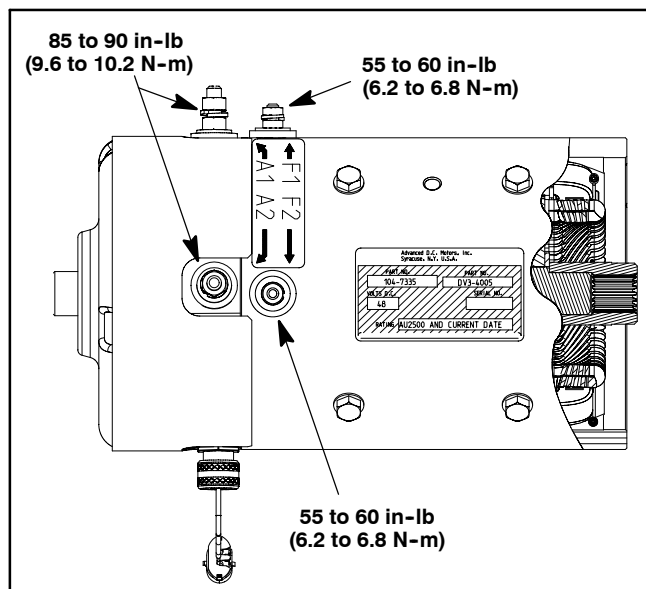

Figure 15
5. Position wheel assemblies to the vehicle with valve stems facing out. Secure each wheel with five (5) lug nuts.
7. Connect wires to traction motor (Fig. 15):